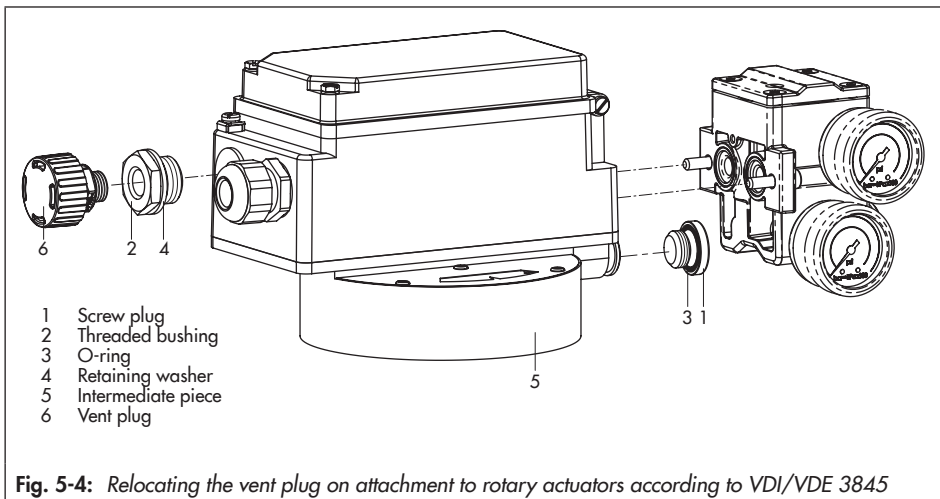

Fig. 5-4: Relocating the vent plug on attachment to rotary actuators according to VDI/VDE 3845
➔ For the attachment of the reversing amplifier to the above listed devices with mounting kit (1400-8815), remove the vent plug (6) from the intermediate piece (5) and insert into the positioner (see Fig. 5-4):
1. Place the O-ring (3) onto the screw plug (1).
2. Screw the screw plug (1) into the vent opening of the intermediate piece (5).
3. Thread the threaded bushing (2) and retaining washer (4) into the free cable gland of the positioner.
4. Screw vent plug (6) into the threaded bushing (2).